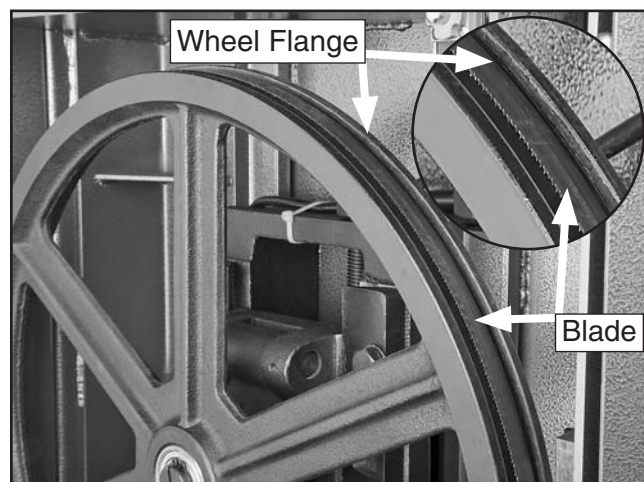

Figure 40. Back edge of blade next to wheel flange.
8. Position the back edge of the blade so that it is next to, but not against, the top wheel flange (see **Figure 40**).